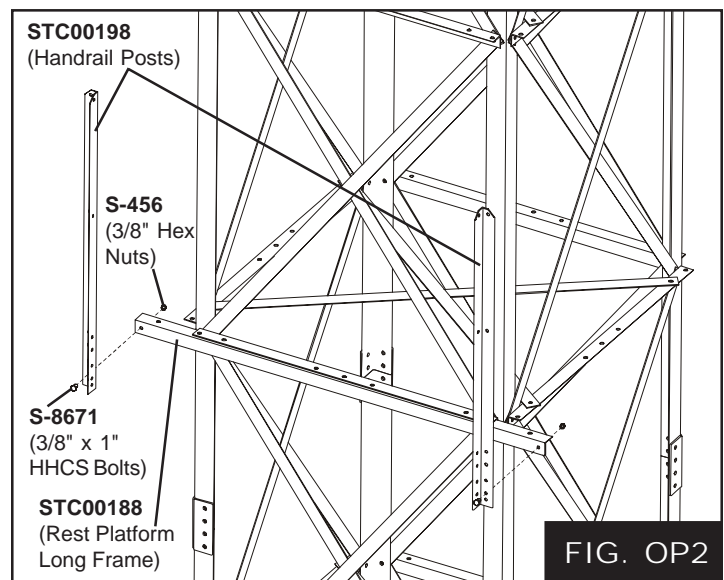

FIG. OP2
3. Attach Handrail Posts (**STC00198**) to the Rest Platform Long Frame (**STC00188**) using (2) 3/8" x 1" bolts & nuts. (See Fig OP2)